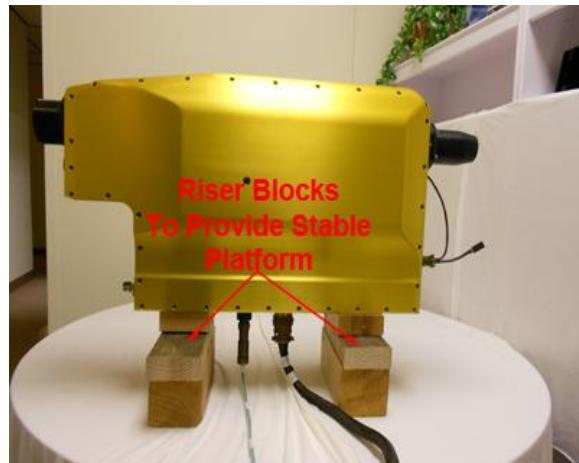
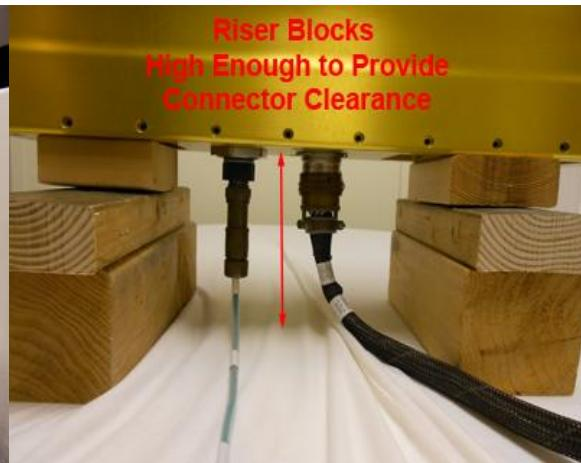

Figure 2.3.1
Figure 2.3.2
2. Place 3V-CPI on stable riser blocks (**Figure 2.3.1**). Height of blocks should be sufficient for bottom connector clearance, but low enough to keep instrument stable (**Figure 2.3.2**).